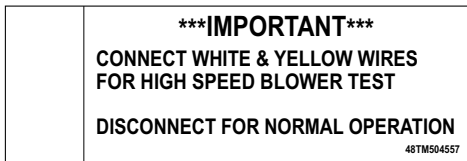

Fig. 12 - High Speed Test Label
4. Locate and connect the WHT and YEL wires extending from the VFD. The two wires are bundled together using the label shown in Fig. 12.